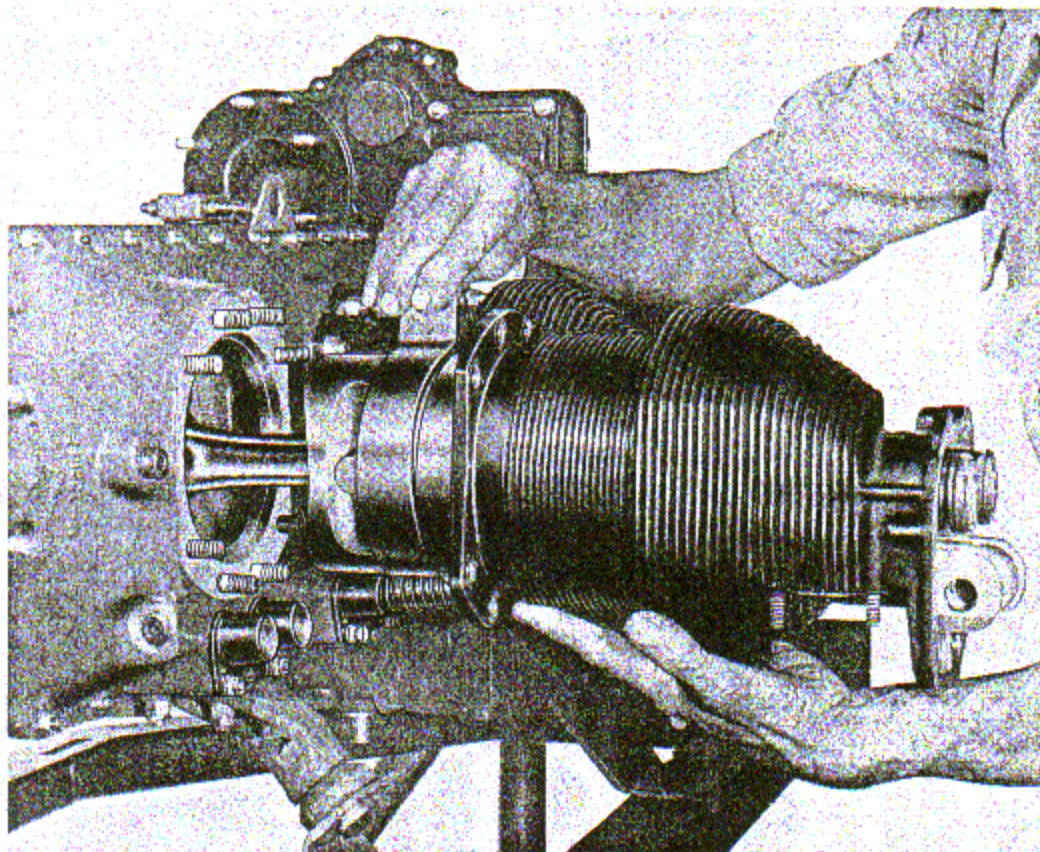

Figure 7-6. Installing Cylinder and Valve Assembly Alone
f. Hang piston ring compressor, tool group 16, on connecting rod. Cradle cylinder and valves assembly in arm. Work ring compressor into position on rings, and compress them firmly; then push cylinder over piston. (See figure 7-6.) Remove ring compressor, and seat cylinder on crankcase.